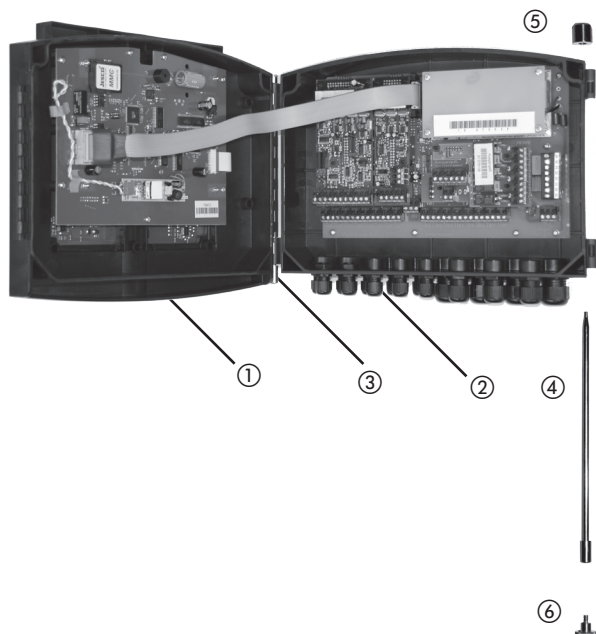

Fig. 4.2: Housing structure
The front housing ① and the rear housing ② of the controller are fitted together with two pivots ③ and ④ (see Fig. 4.2). The unit is designed so that the controller can be opened from either side.